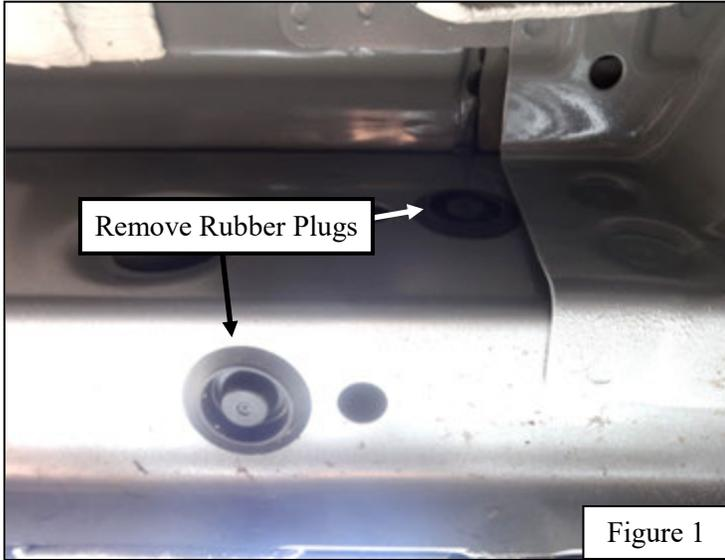

Figure 1
2. Locate and remove the rubber plugs on the rocker panel at each mounting location. See **Figure 1**.